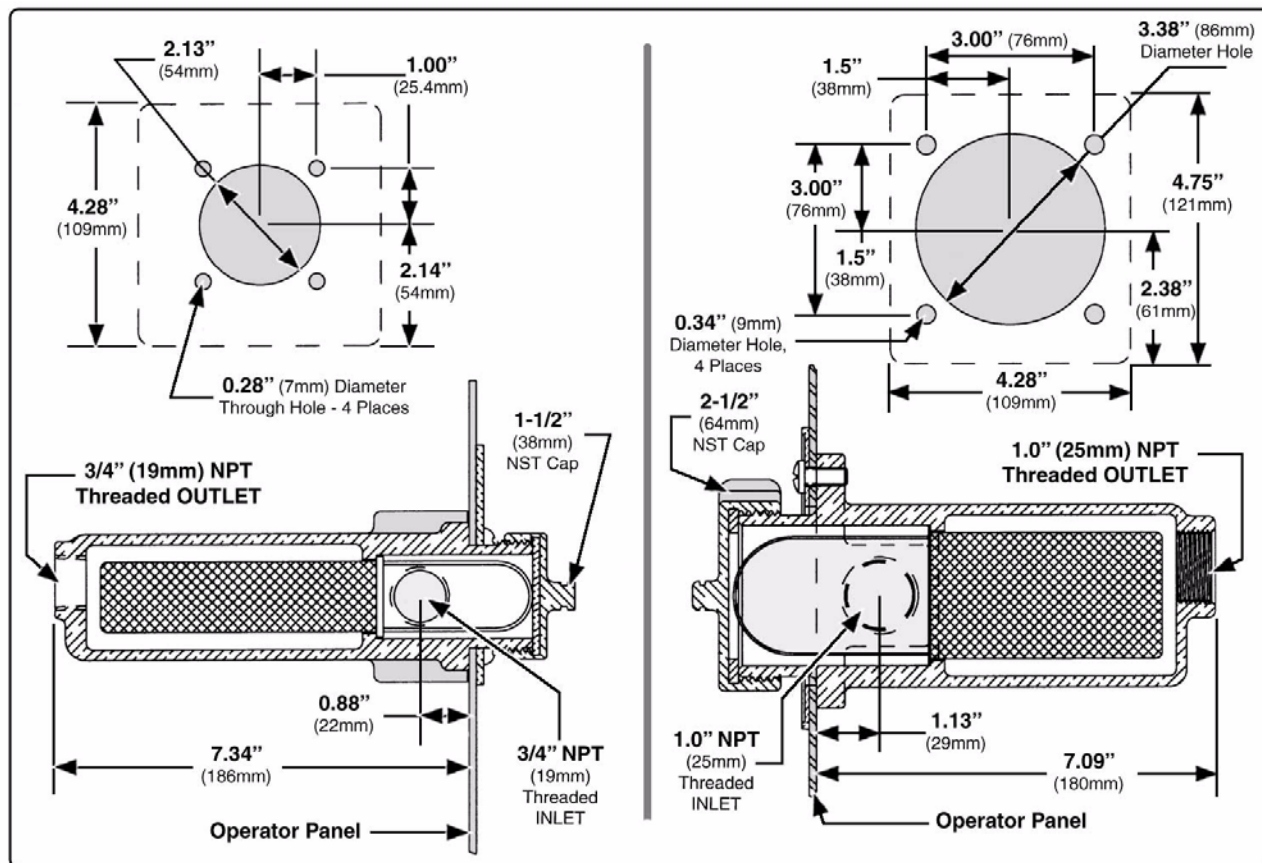

Figure 3-17: FS Strainer Mounting Dimensions
4. Mark holes for mounting the foam strainer by using the nameplate as a guide, or see Figure 3-17: "FS Strainer Mounting Dimensions" on page 70.